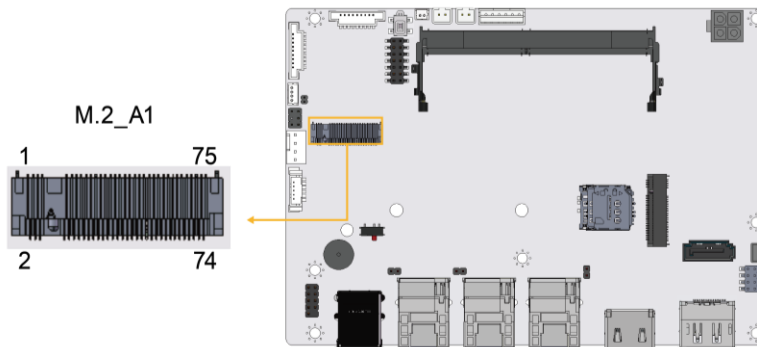

Figure 3-21: M.2 A-key Slot Location
- CN Location:** See **Figure 3-21**